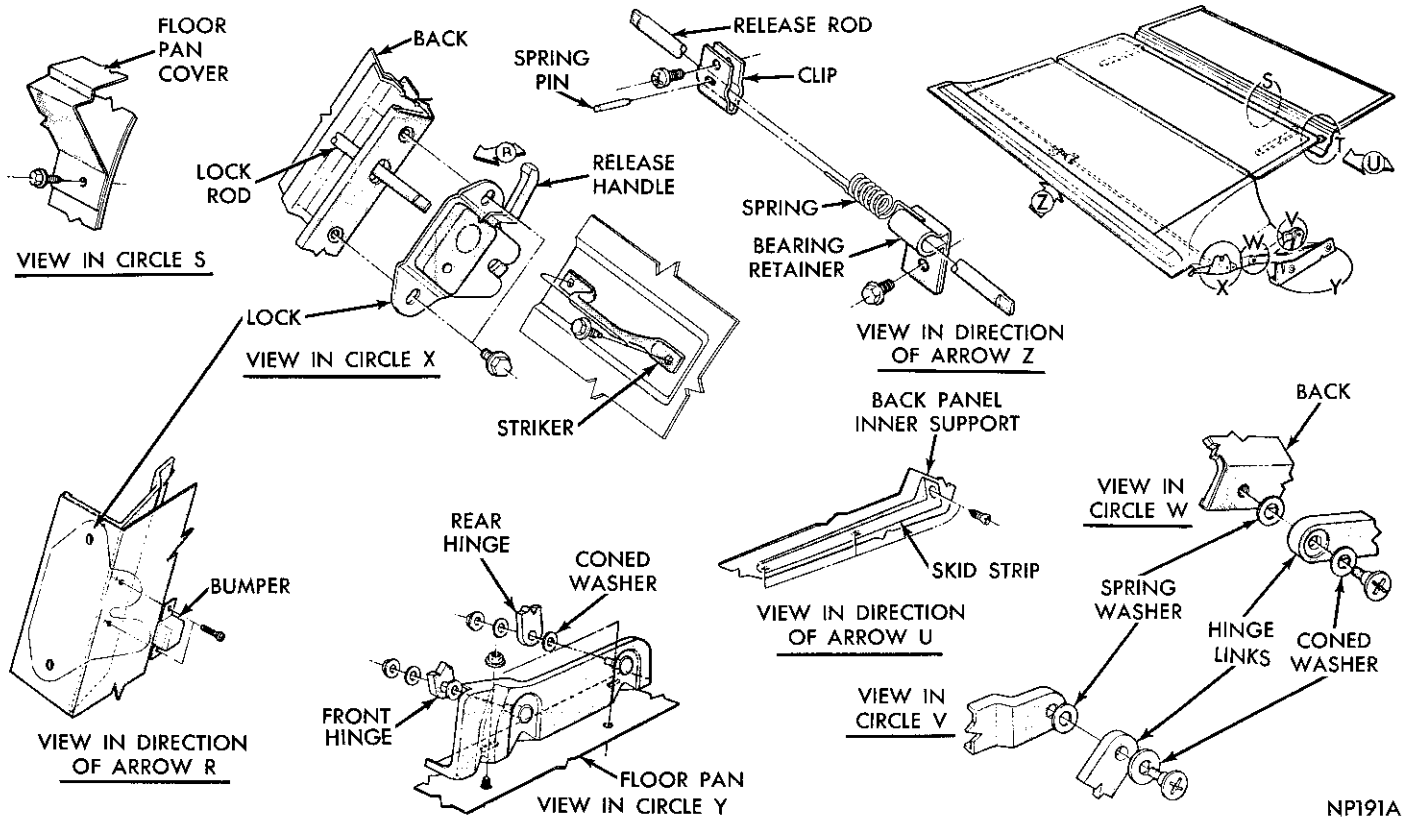

Fig. 14—Second Seat Back Assembly
(1) Remove second seat back hinge to floor pan stud nuts (Figs. 14 and 15).